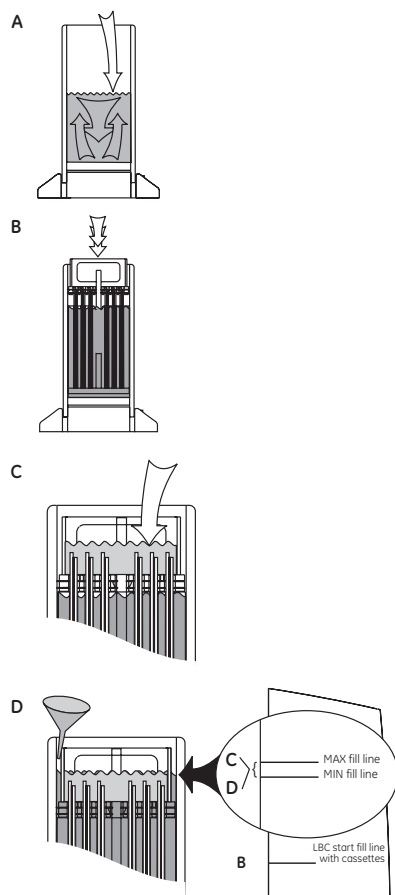

Fig 7-3. Filling the buffer chambers.
- 1 Fill the electrophoresis unit with 4.5 liters of 1× electrophoresis buffer or diluted anode buffer and turn the pump on (Fig 7-3 A).
- 2 Insert the anode assembly into the tank so that the circulation ports are properly aligned. The anode assembly is keyed so that it may only be inserted in one orientation and the bottom edge of the assembly should fit into the slot in the bottom of the tank (Fig 7-3 B).
- 5 Add 1× electrophoresis buffer or diluted anode buffer until the buffer level is at or just below the "LBC start fill" line marked on the unit (Fig 7-3 C).
- 8 Fill the LBC with 1× SDS electrophoresis buffer or diluted anode buffer to the same level as the upper chamber (Fig 7-3 D).